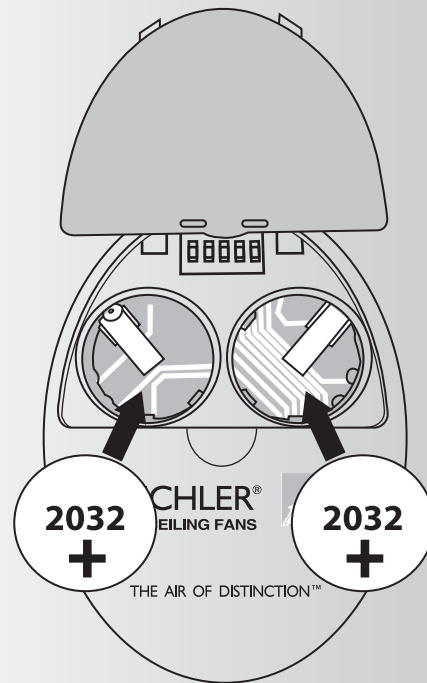

Fig. 19
Open the back of the Transmitter (figure 19)
2. Insert both batteries and make sure they are seated correctly in each recess with the Positive + sign facing up. Replace the battery cover. (Figure 19)